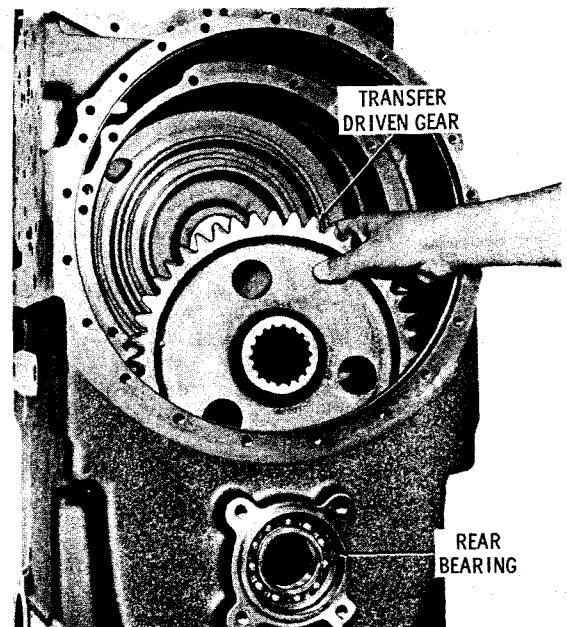

Fig. 5-37. Removing transfer driven gear (one-piece shaft)
(5) Removal of the output shaft will free the transfer driven gear and spacer 24 (A, foldout 8). Remove the transfer driven gear (fig. 5-37) and remove the spacer from the sump area. Remove lip-type oil seal 27 (A, foldout 8) from the rear of the housing. Remove the output shaft rear bearing from its bore (fig. 5-37).